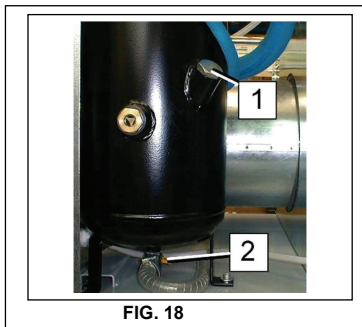

FIG. 18
After draining the old oil out of the machine Ref. 2 Fig. 18.
- Completely fill the oil collector , observe level on sight glass Ref. 1 Fig. 18.